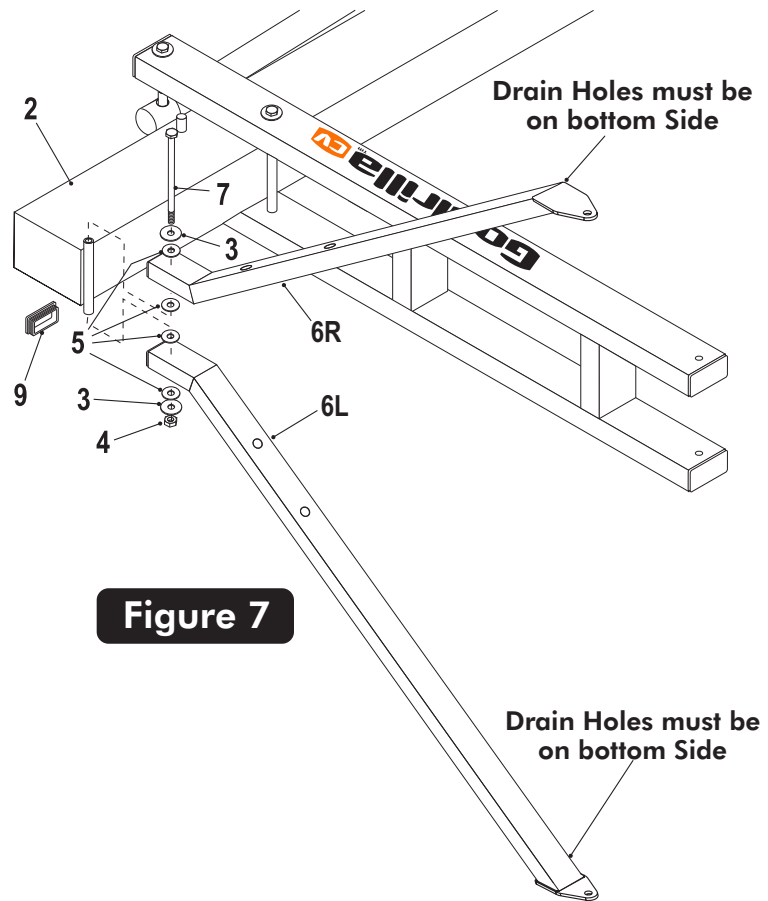

Figure 7
- Attach Upper Arms (#6L & 6R) to pole (#2), as shown in Figure 7. Using a bolt (#7), two flatwashers (#3), four plastic washers (#5) and hex nut (#4).